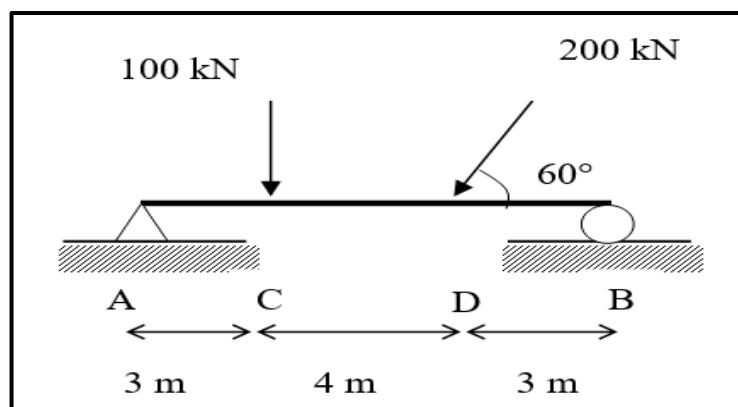

Figure 3(b)
- (b) Figure 3(b) shows a 10 m long simply supported beam that is subjected to a point load and an inclined load. Calculate the reaction force at support A and B.